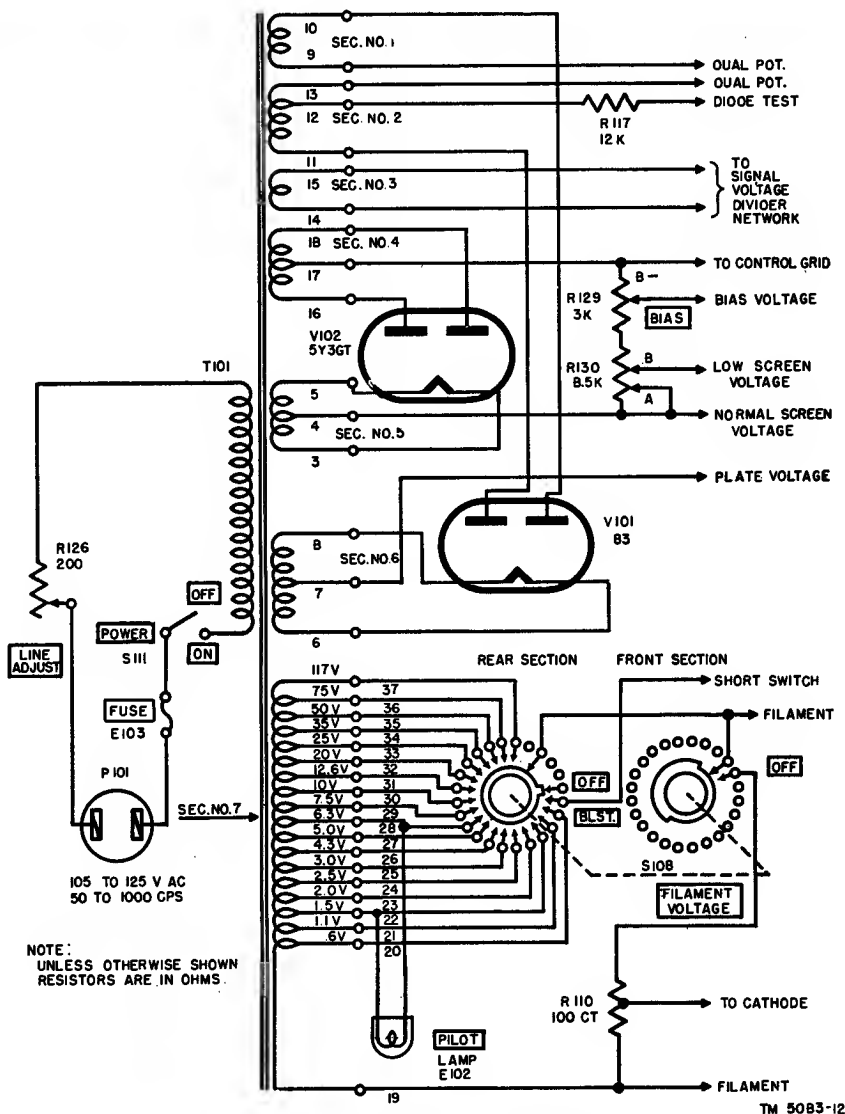

Figure 13. Simplified power supply circuit.
a. Power Supply Circuit (fig. 13).
- (1) The primary of power transformer T101 is supplied from a voltage source of 115 volts plus or minus 10 percent and a frequency of 50 to 1,000 cps through the **POWER ON-OFF** switch (S111), the **LINE ADJUST** control (R126), and the **FUSE** lamp (E103). The **LINE ADJUST** control, operated